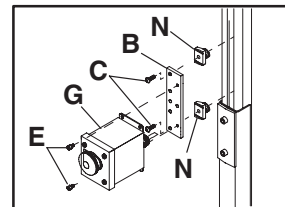

Figure 12
1. Install two Spring Nuts (Figure 12, item N) into Leg slot.